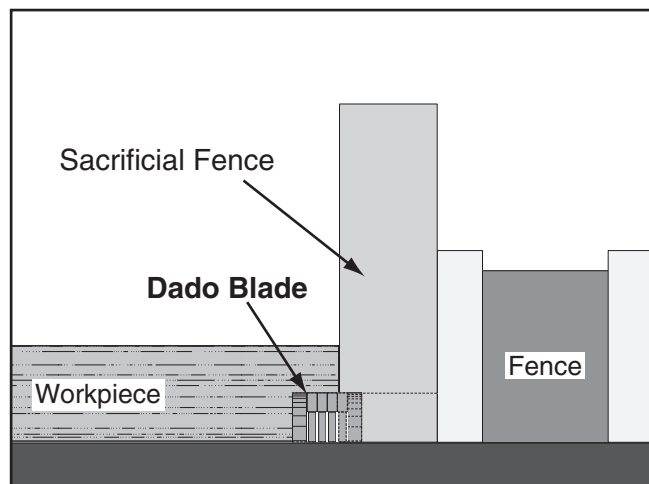

Figure 51. Rabbet cutting.
3. Adjust fence and align workpiece to perform cutting operation, as shown in **Figure 51**.